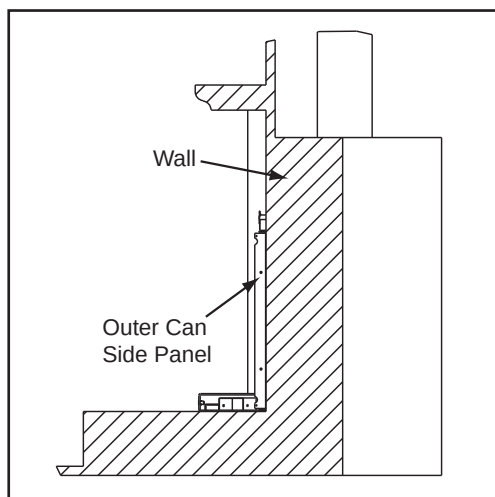

Figure 40.2
2. Re-install the timer assembly. The timer arm must be between the first and second control arm tabs. **Figure 40.2.**